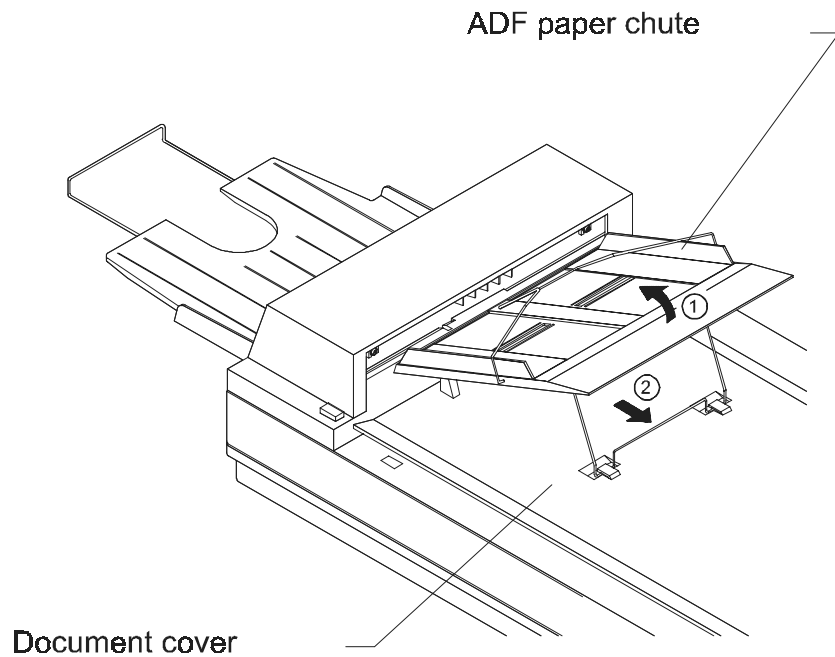

Figure 2-4 Setting the ADF Paper Chute
| 2.3 ADF PAPER CHUTE (FIGURE 2-4)..... | 2-5 |
2.3 ADF Paper Chute (Figure 2-4)